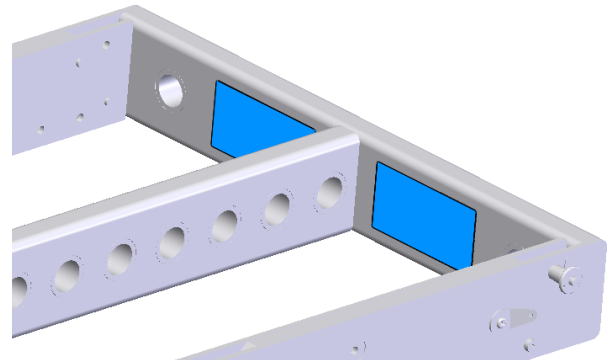

FIGURE 6
6. Install rating labels. Wipe down the inside of the grid with IPA where the rating labels will be installed. Remove backing and apply labels approximately where shown in FIGURE 6. Note: Their orientation is not important. Apply firm pressure to ensure good adhesion to the grid.